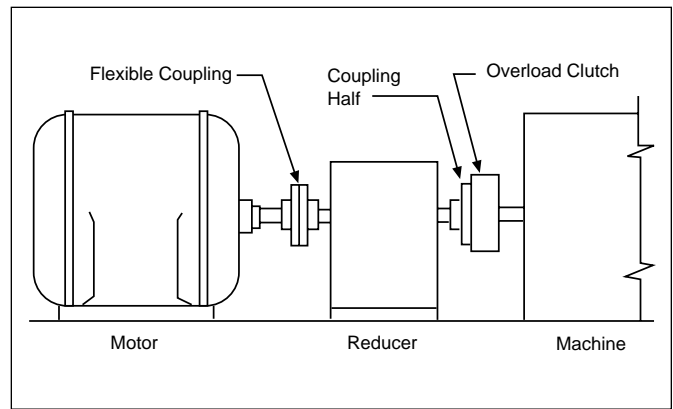

FIGURE 9
The clutch should always be located as close as possible to the source of an overload condition. Figures 9 through 12 indicate both preferred and not preferred locations for mounting an ORC Series, Model S Overload Release Clutch.
a. Figure 9 shows the **preferred** location for mounting in a direct drive application. The clutch is mounted on the low speed side of the reducer, and transmits power from its housing, through its rotor to the driven shaft.